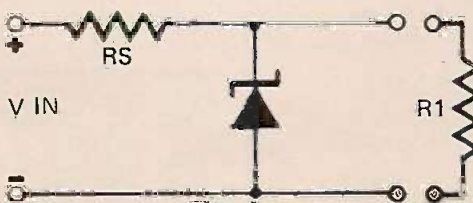

FIG. 2
A basic voltage regulator circuit, using one resistor and one (idealized) Zener diode, is shown in Fig. 2. In the example shown, the Zener diode is rated at 5.6 Volts and the applied
The resistor R_1 , in Fig. 2, represents an external load. If this load is connected across the circuit, then some of the current that was flowing through the Zener will now pass through the load. Providing the current in R_s is greater than the load current, some current will still pass through the Zener and a substantially constant voltage will be maintained across the Zener/load.
through the Zener diode cannot exceed its specified power rating: which is the Zener voltage multiplied by the Zener current. In the circuit shown in Fig. 2, maximum current will flow through the Zener diode when the load is disconnected.
3. In the circuit shown in Fig. 2, the required output voltage, and hence the Zener voltage, is 5.6 Volts, and the specified minimum Zener current is 100 microamps. Thus the maximum Zener current is 100 microamps plus 10 milliamps — which is 10.1 milliamps.